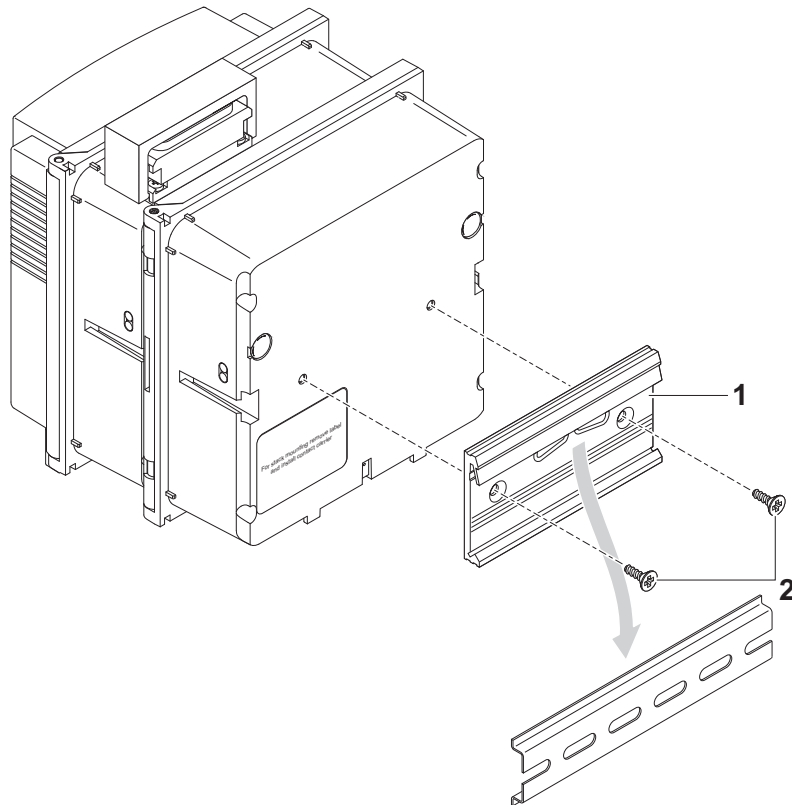

Fig. 3-21 Mount DIQ/S 182-XT-4-MOD on top hat rail mounting
1	Screw the clamping assembly (item 1 in Fig. 3-21) with the two plastic self-tapping screws (item 2) onto the back of the DIQ/S 182 XT-4-MOD.